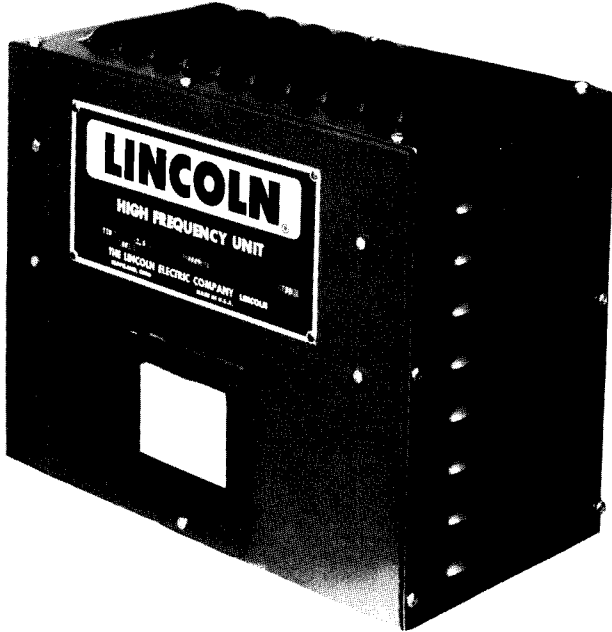

**Figure 3**
B. To prevent installation complications observe the following precautions: (See Figure 3)